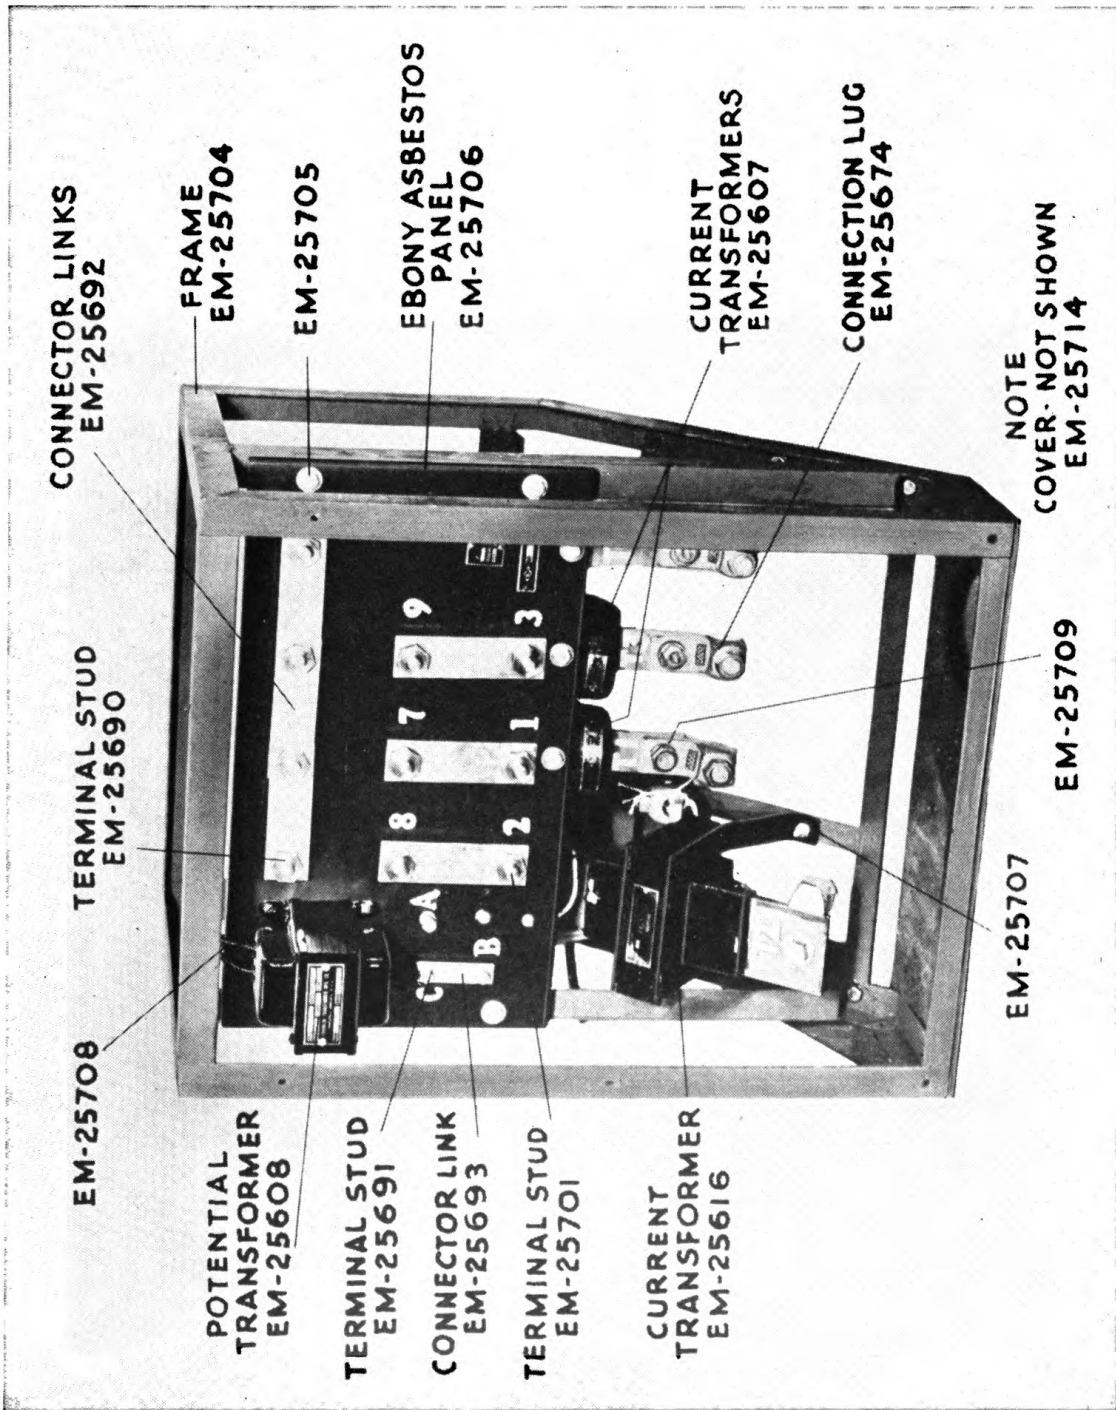

FIG. 16—Terminal Box—Front View
- Figure 16 Terminal box—front view.